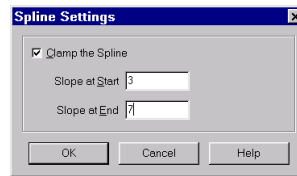

Figure 8-22. The Spline Settings dialog.
1. Select the appropriate mappings in the Mapping Style dialog and click the Curve Settings button. The Spline Settings dialog appears as shown in Figure 8-22.